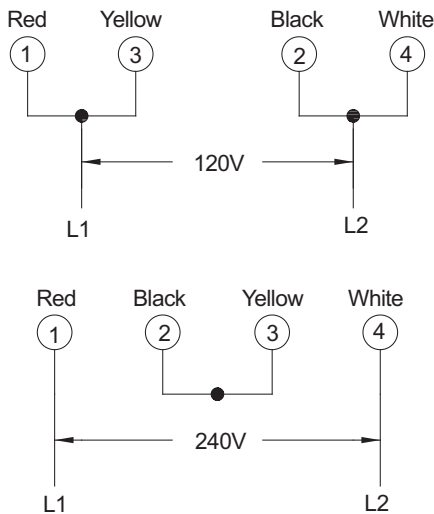

Figure 3 – Wiring diagram
Refer to Figure 3.
- See wiring diagram (Figure 3) for wiring instructions, single-phase operation.